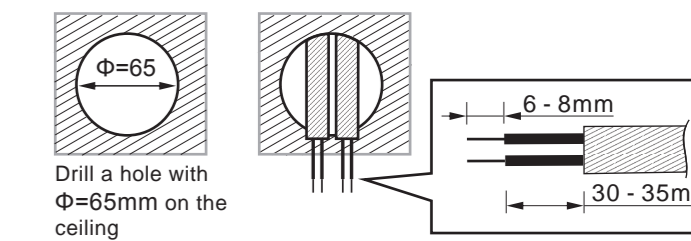

FIG.14
- 3.4.2.1 To install detector, please drill a hole with diameter of 65mm on ceiling board and keep the power cable outside. Please strip off 6 - 8mm of cable sheathing for wiring (See FIG.14).